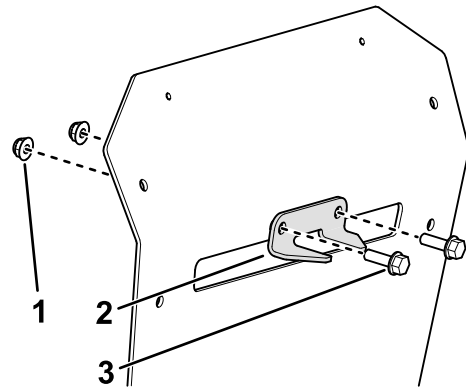

Figure 13
- Install the stabilizer bracket to the rear guard using 2 bolts (5/16 x 1 inch) and 2 locknuts (5/16 inch) as shown in Figure 13.